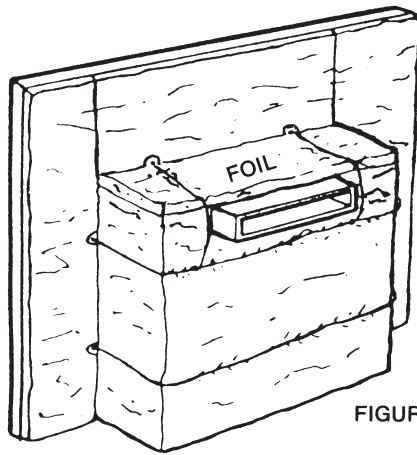

FIGURE 2
2. Secure fiberglass insulation in place by tying wire (supplied) to the wire retainers on the side of the firebox. Loop wire around the back of the firebox and fasten to retainers on opposite side. Secure wires to top retainers on firebox and fasten to lower horizontal wire on back of the firebox. (See figure 2)
4. Place the remaining fiberglass insulation strips between the faceplate and fireplace facing. (See figure 2)